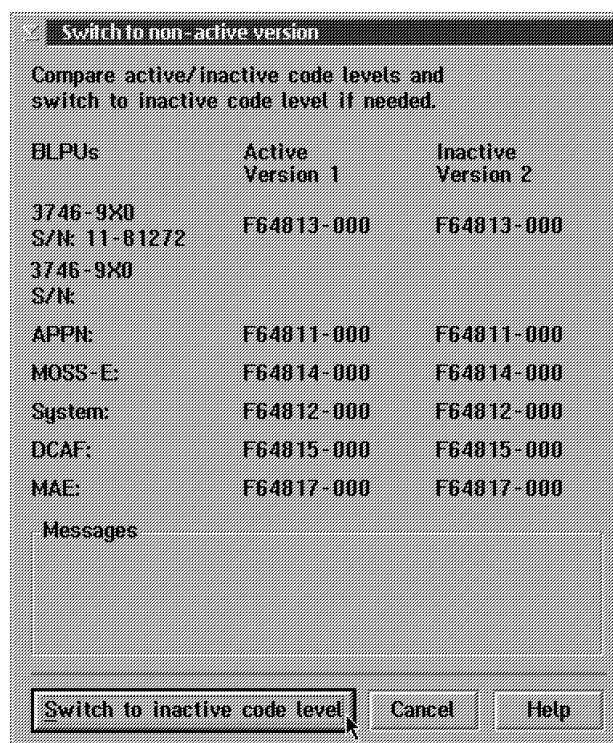

Figure 3-7. Switch to Non-Active Version
4. The Switch to Non-Active Version panel in Figure 3-7 on page 3-5 is displayed. Follow the prompts.